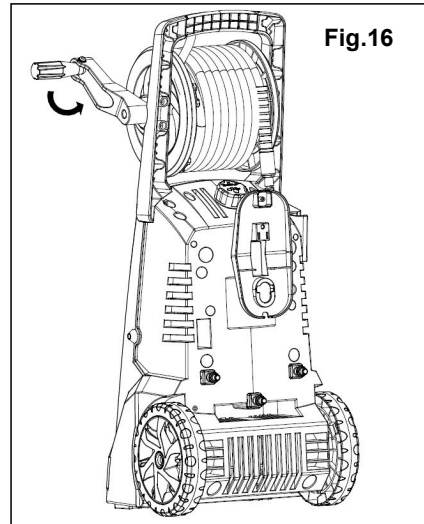

Fig.16
1. Unlock the hose reel by pulling out the hand crank and turn it to wind the hose (Fig.16).